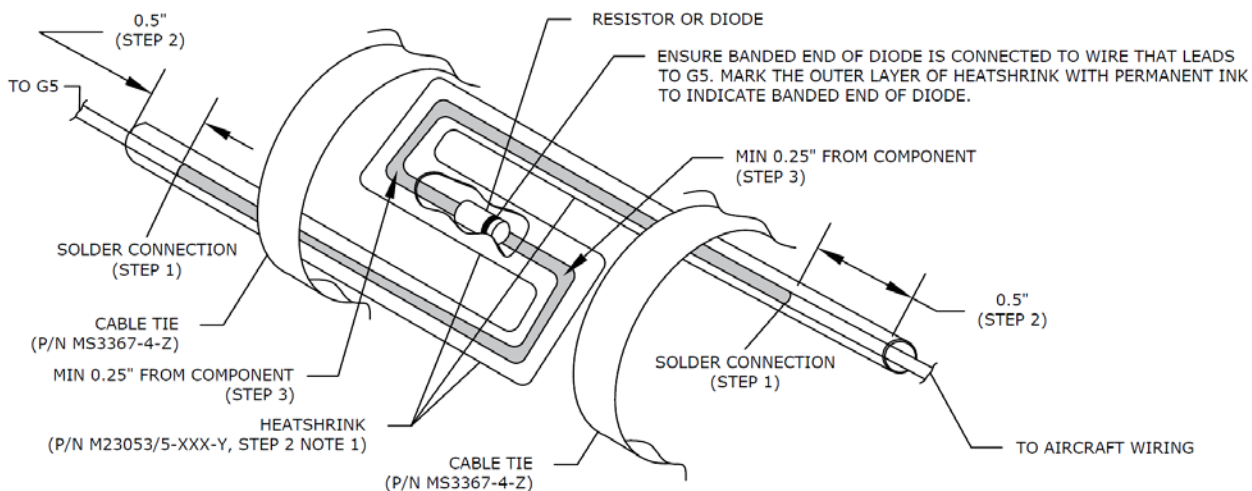
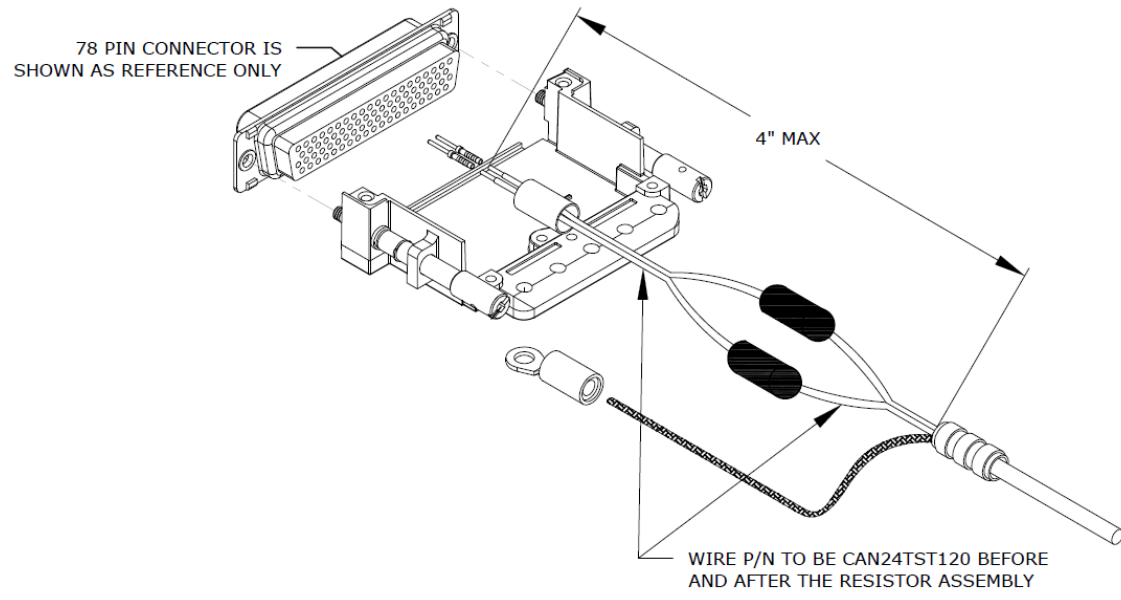
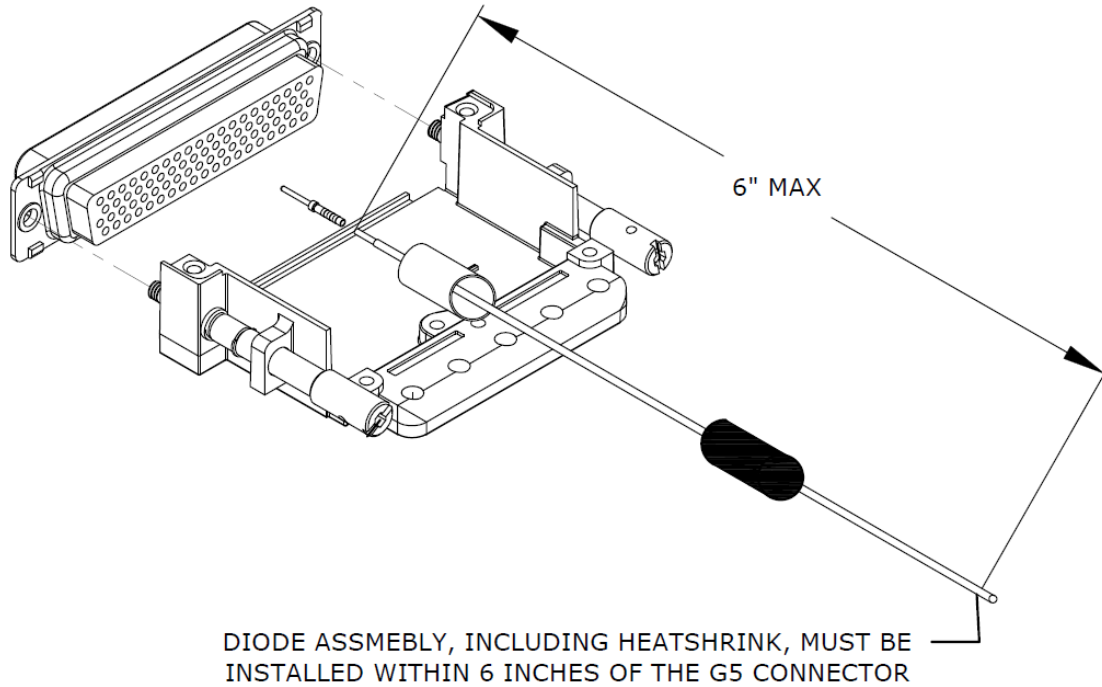

Figure 3-8 G5 Diode and Resistor Method A Buildup
Figure 3-9 Placement of G5 CAN Bus Resistors
Figure 3-13 Placement of G5 Power Diode
For installation of 15Ω resistors on 120Ω CAN cable see Figure 3-8 and Figure 3-9.
- Method A should be used for component installations utilizing 120Ω CAN cable, see Figure 3-8 and Figure 3-9.
Figure 3-8 shows the installation procedure for the resistors and diode into the wiring harness. For part numbers of resistors and diode, see Section 3.2.1. Figure 3-9 shows the placement requirements of the resistors on the CAN bus wiring. Figure 3-13 shows the placement requirements of the diode on the G5 power wire. See Section 5 for complete wiring interconnect details.
Figure 3-8 shows the installation procedure for the diode into the wiring harness. For part numbers of diode, see Section 3.2.1. Figure 3-13 shows the placement of the diode on each power input for the G5. See Section 5 for complete wiring interconnect details.